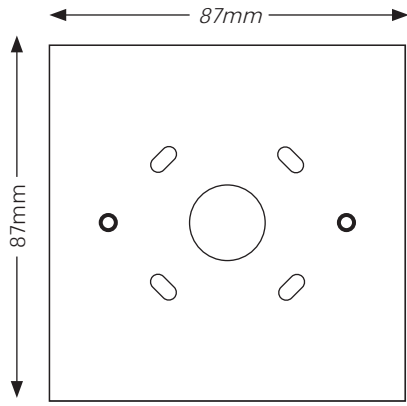

Fig 2 Backbox
1. Fit the backbox (Fig 2) to the wall.